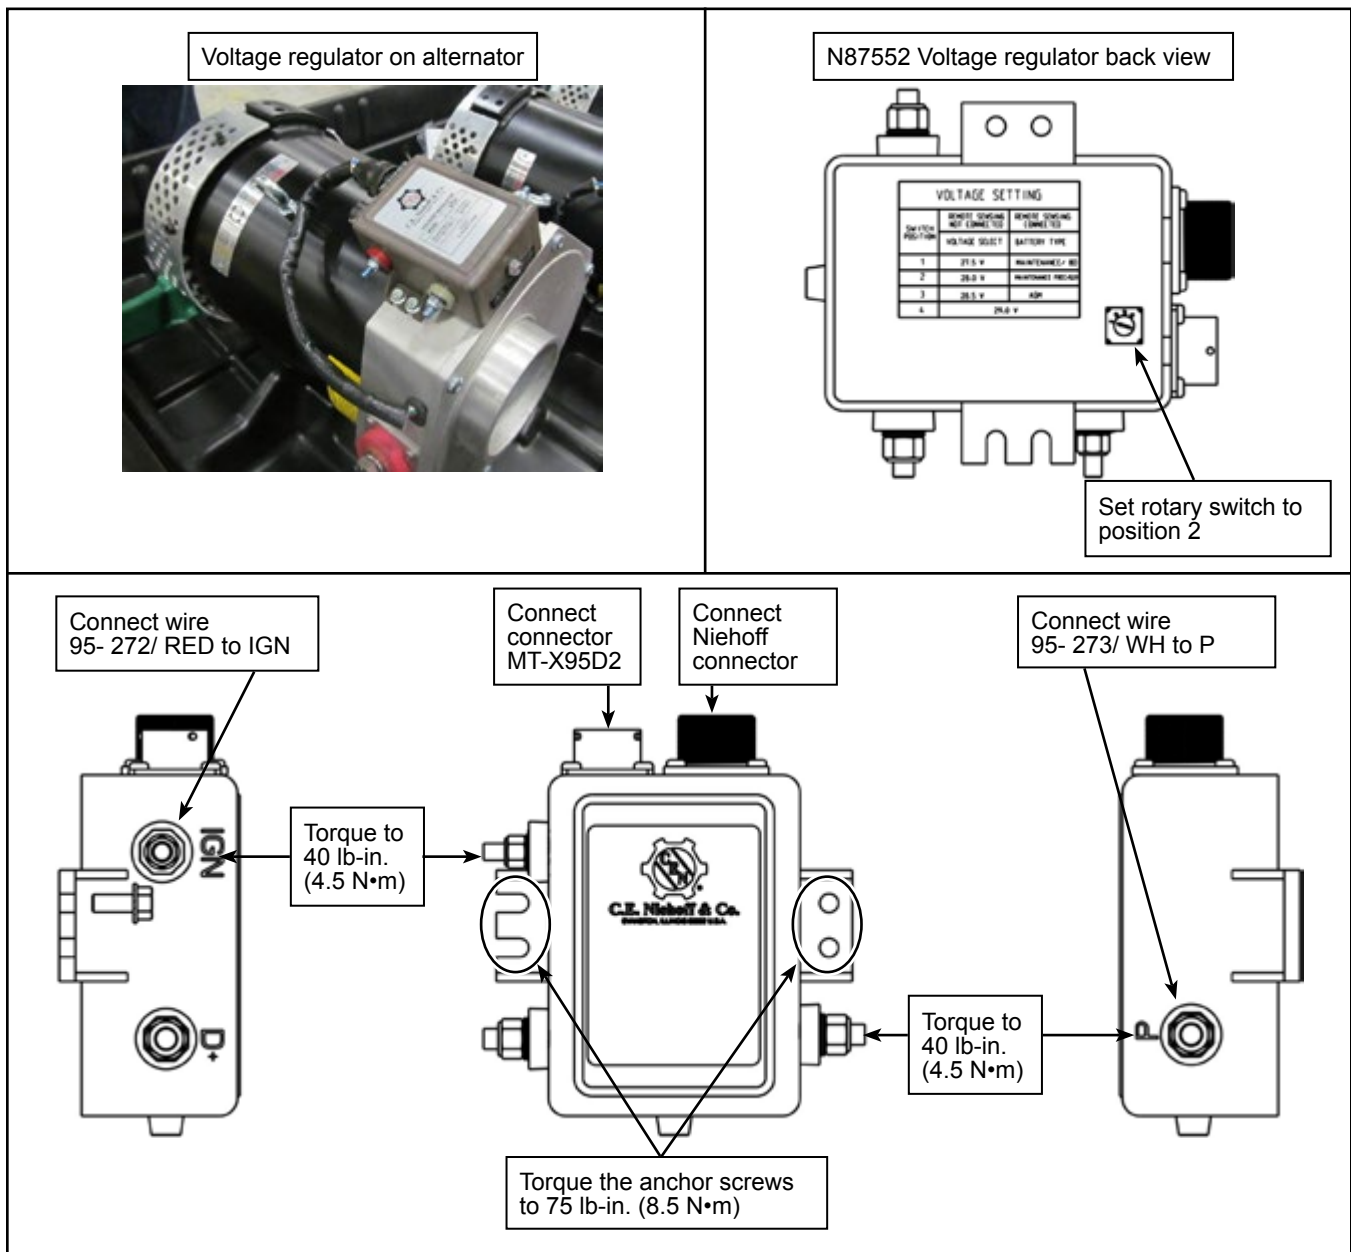

Figure 2 - Installation Instructions for N87552 Voltage Regulator
- 1.4. On the voltage regulator, disconnect connector **MT-X95D2**, the Niehoff connector and wire **95-272/RED** from the **IGN** terminal, and wire **95-273/WH** from the **P** terminal. See Figure 2 for voltage regulator location.
- 1.6. On the new N87552 voltage regulator, set the rotary switch, located under the voltage regulator, to position **2** (28V). See Figure 2.
- 1.7. Install the new N87552 voltage regulator on the alternator using the retained hardware. See Figure 2 for torque value.
- 1.8. Connect connector **MT-X95D2**, the Niehoff connector and wire **95-272/RED** to the **IGN** terminal and wire **95-273/WH** to the **P** terminal. See Figure 2 for torque values to apply to terminals **IGN** and **P**.